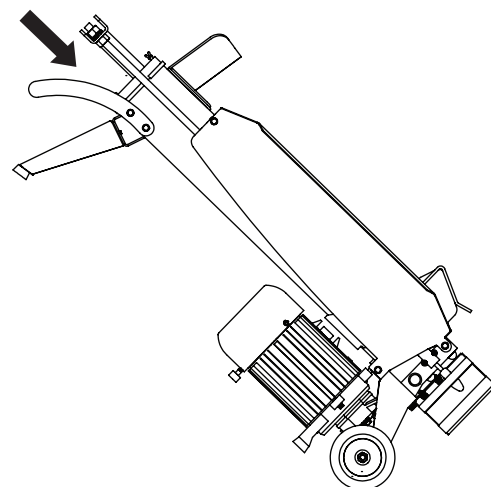

Figure 11
4. Turn the log splitter on the motor side. **(SEE FIGURE 11)**